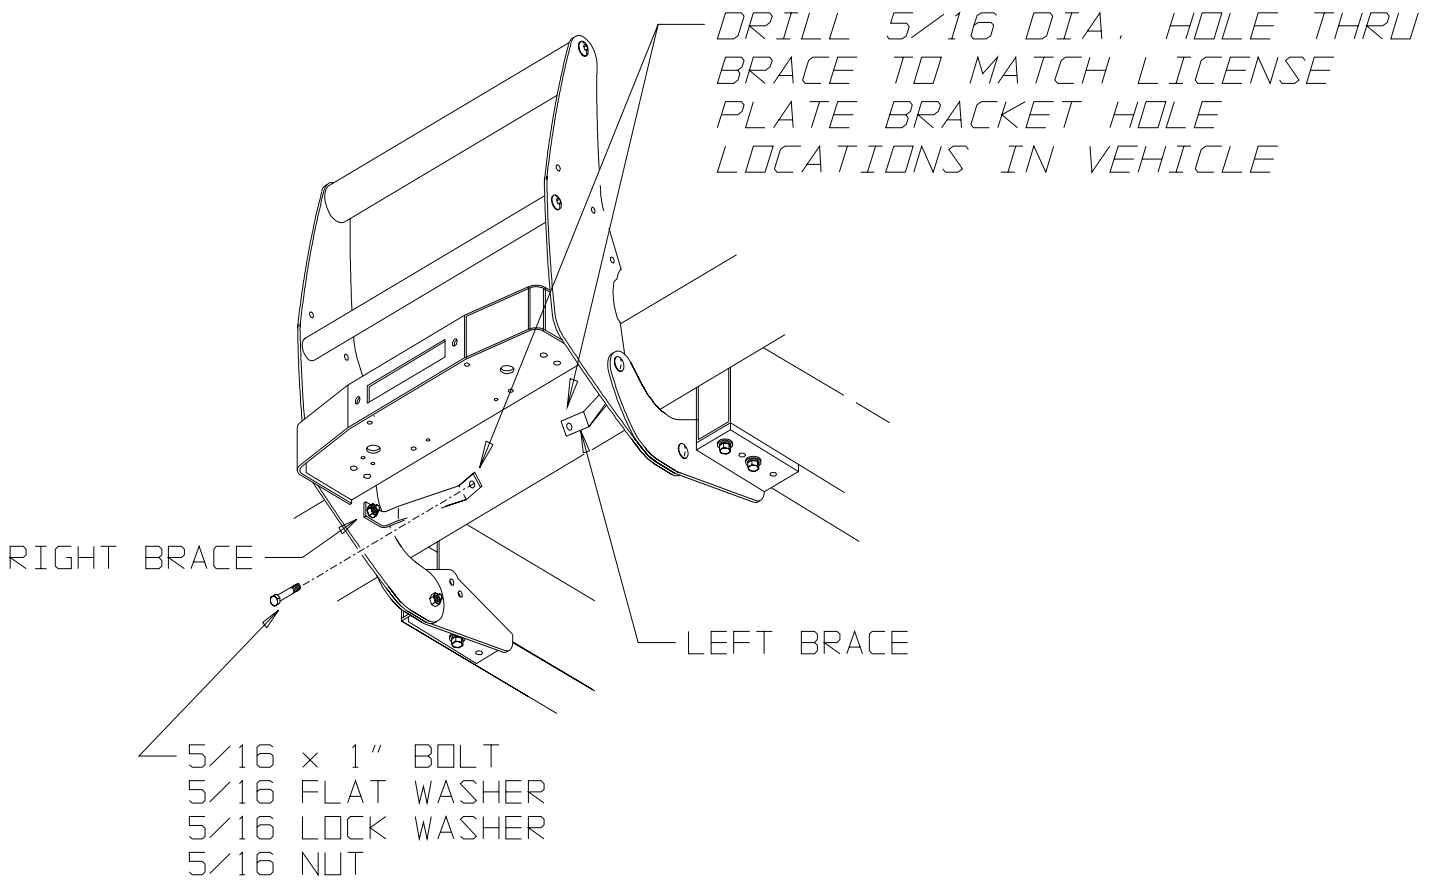

Figure 7
12. **If a Winch Carrier or Receiver Kit is being installed, it is mandatory that the braces shown in Figure 7 be installed.** Drill 5/16" holes in the braces to match the lower license housing holes in the bumper. Some minor bending of the brackets may be required to improve the fit. If a winch is not being mounted at this time, the braces are optional, but be sure to save them if a winch may be mounted at some future time.